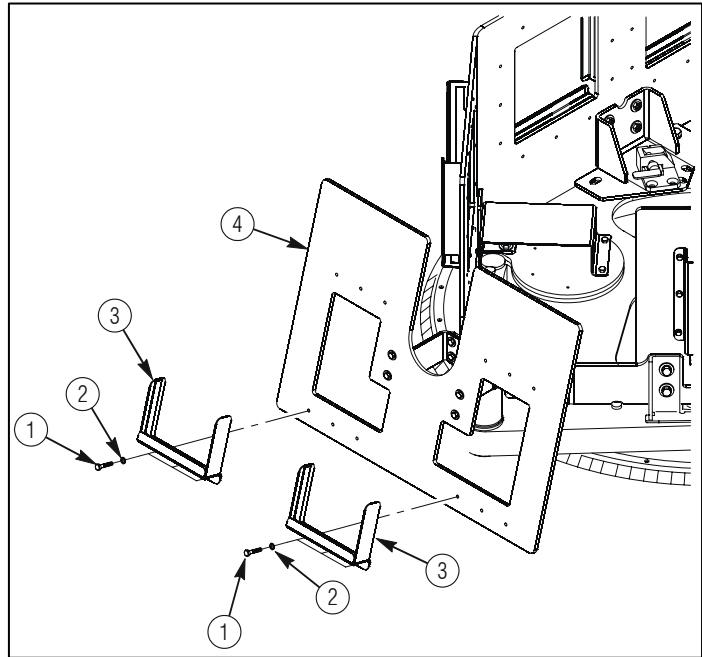

*Figure 16*
- a. Attach five 13014399 bottom brackets (3) and ten 13014398 side brackets (4) to armor panels (5) using forty-five B1821BH031C063N hex bolts (1) and forty-five NASM35338-45 lockwashers (2) as shown in figure 16. Do not tighten hex bolts (1) at this time.